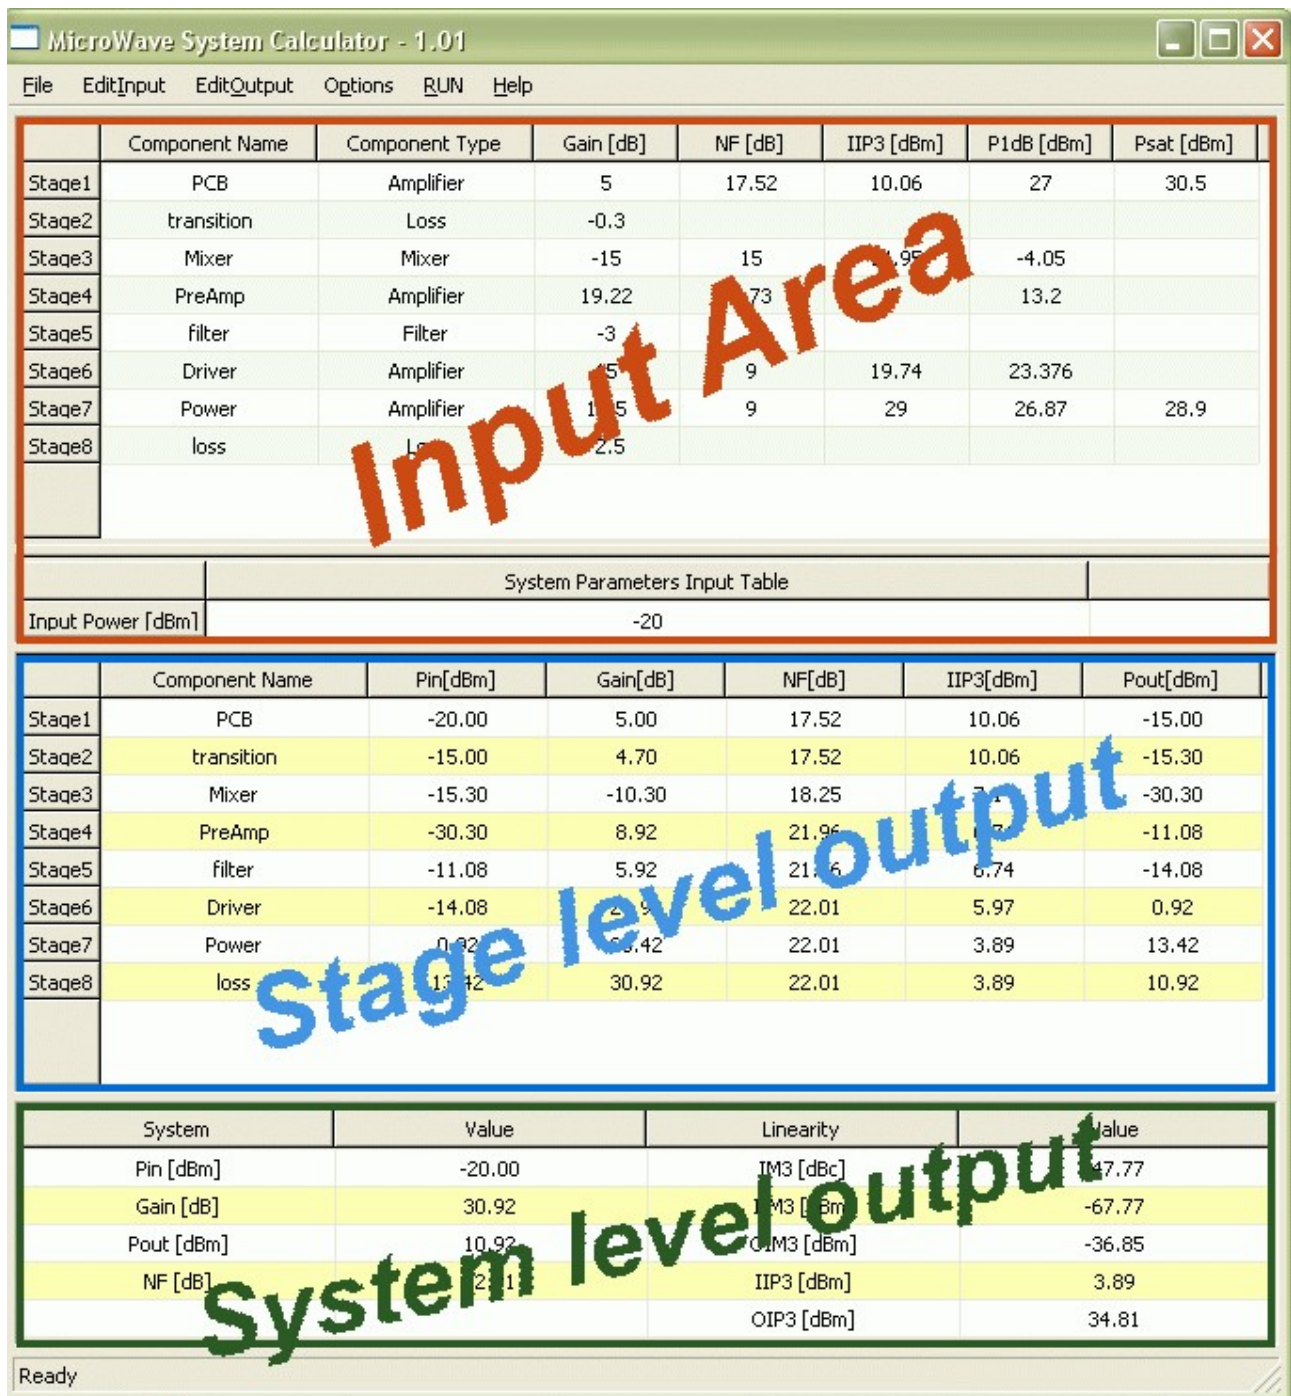

Figure 1: Mystic design window
- On the higher part of the window (red box in Figure 1) you can edit the input file which describes the component chain constituting your system.
- output table at stage level (see blue box in Figure 1)
- output table at system level (see green box in Figure 1)